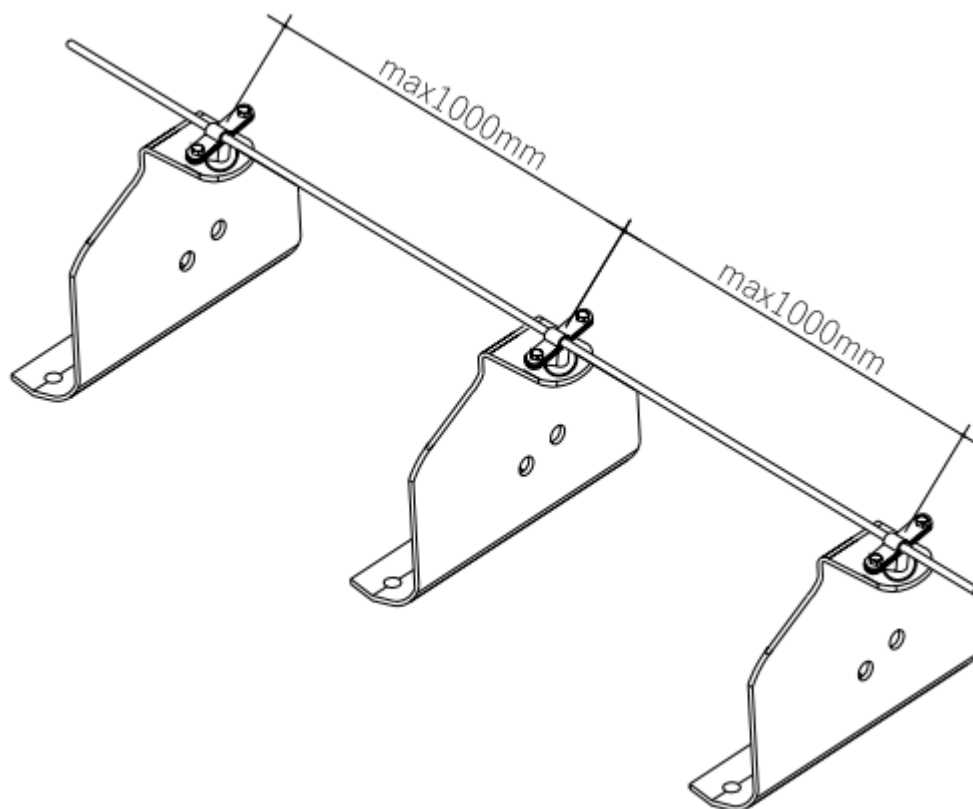

Figure 1.
- The maximum interval between Z-bracket plates is 1000 mm (Figure 1).